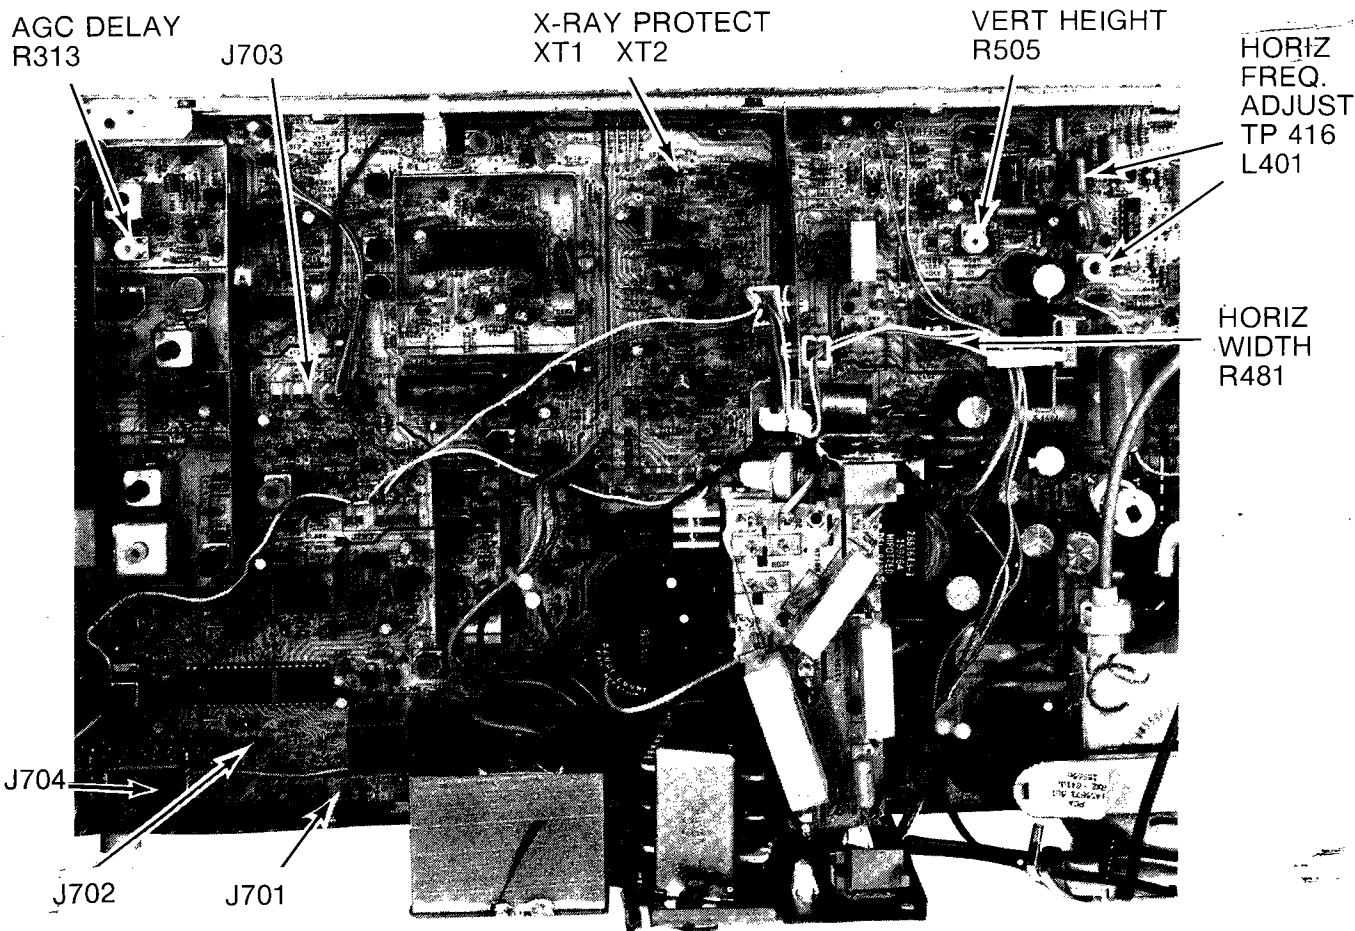

Fig. 11 — Chassis Service Adjustment—Locations
Due to improved noise immunity, a non-keyed I-F/AGC circuit and increased horizontal pull-in range, the horizontal oscillator circuit no longer requires a service adjustment or customer operated horizontal hold control. To adjust horizontal frequency short TP416 to ground (Fig. 11). Adjust L401 for stable or slowly floating horizontal picture. Remove short from TP416 to ground.
The horizontal width (R481) Fig. 11 is factory preset and should require no further adjustment unless picture tube(s), deflection yoke(s) or IHVT is replaced and results in underscanning.
3. Locate stakes label XT1 and XT2 on the main chassis circuit board (Fig. 11) and schematic (Fig. 36, Zone 7E).